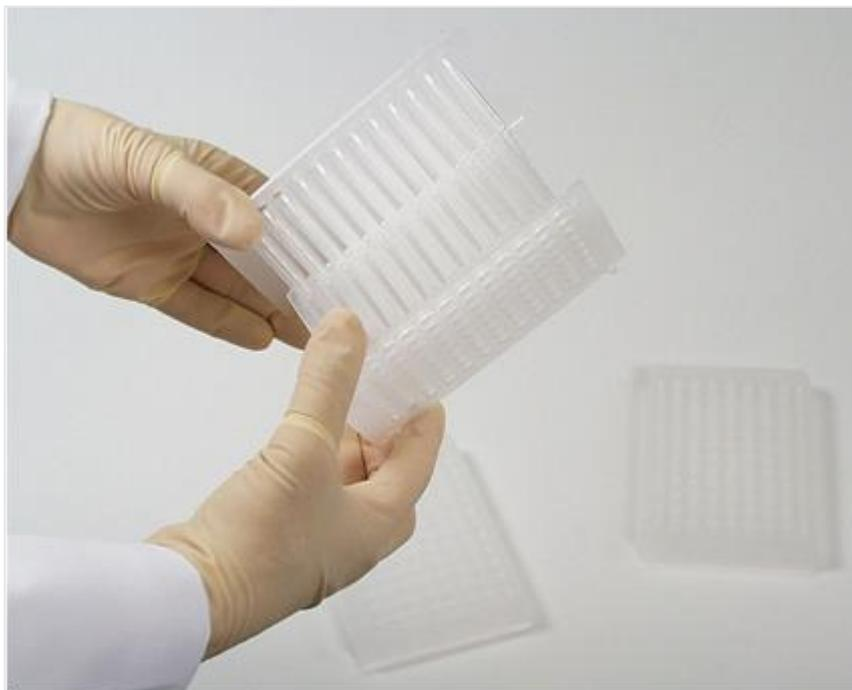

Figure 35. Separate the two tip combs
2. Open the package and separate the two tip combs (Figure 35). Place one of the tip combs onto the KingFisher 96 plate (= tip-plate).